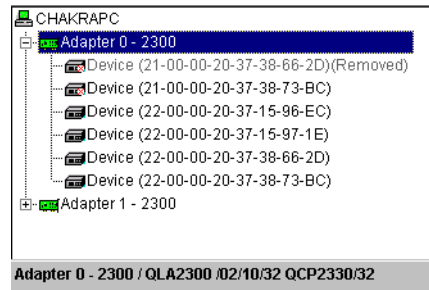

Figure 14-28. HBA Tree with Old and New (Replacement) Device
8. After a target has been replaced by another target, the replaced target is disabled and marked as **Removed** in the HBA tree (see figure 14-28).